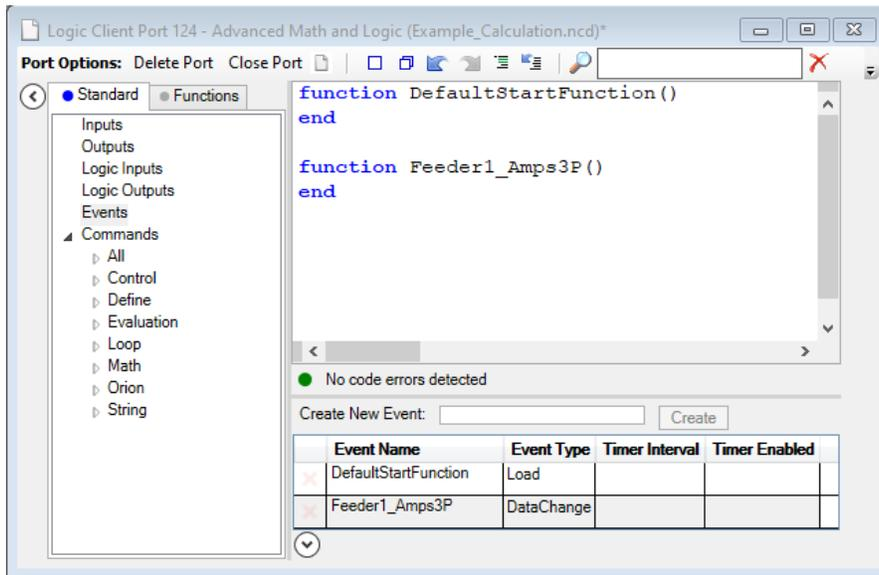

Figure 39: Create Event for Calculation
Step 1: Create the DataChange event (Figure 39)
The following window will be displayed (Figure 39). Notice the new Feeder1_Amps3P() function has been added to the logic editor. The logic code for the phase current calculation will be placed into this function.